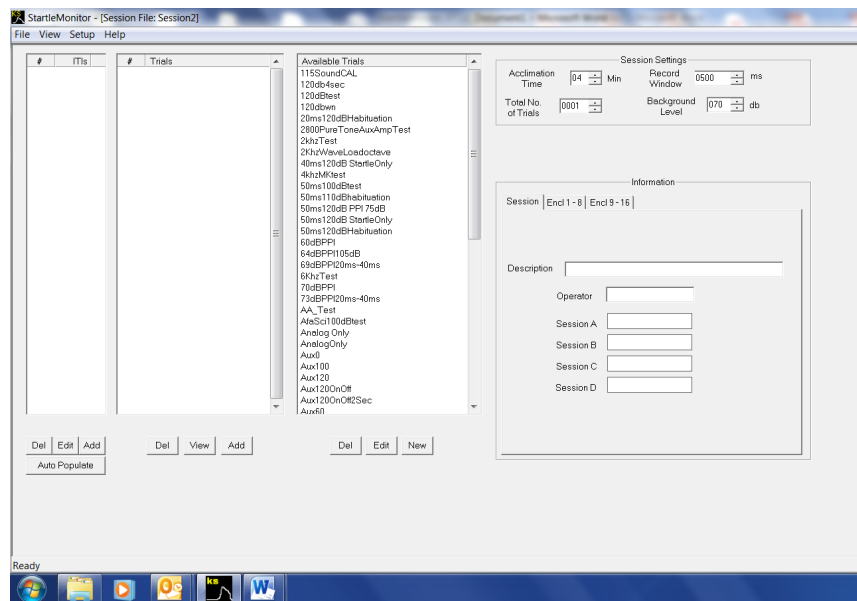

Figure 111 Session/Trial Editing Screen
Step 1. From the main menu in *StartleMonitor*, click on **File** and then **New**. Your screen should appear similar to Figure 111.